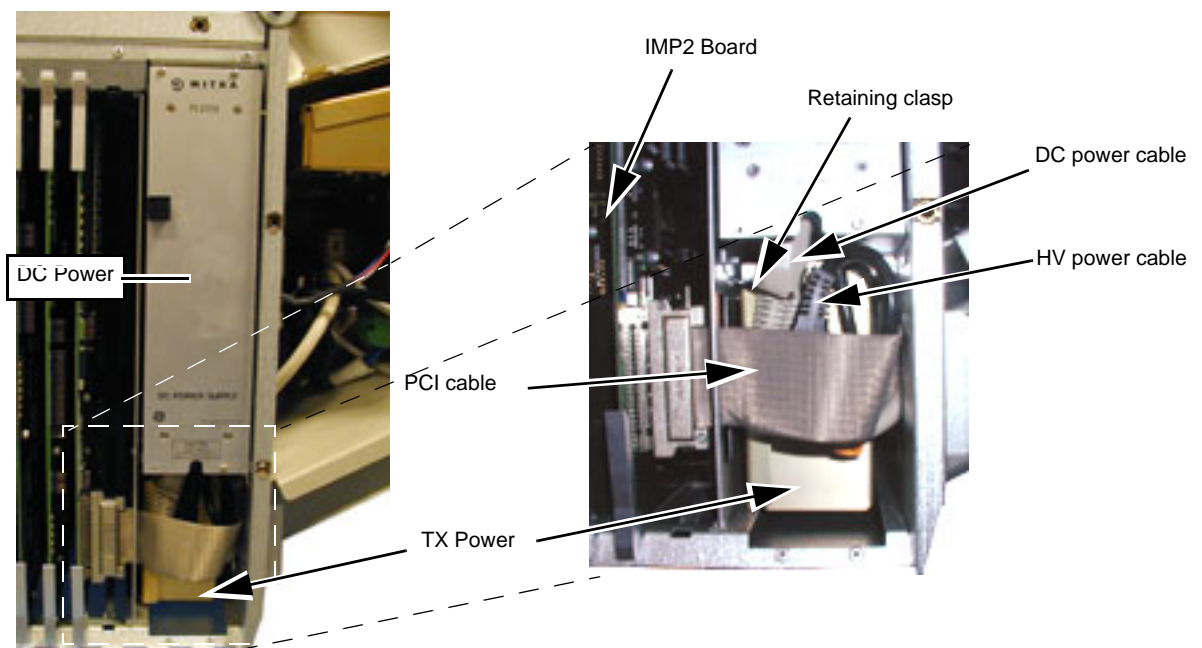

Figure 8-85 DC Power, TX Power and Cabling.
- a.) Turn seven (7) quarter-turn screws to loosen Front-End door.
- 4.) Disconnect PCI cable from IMP2 Board shown in Figure 8-85.